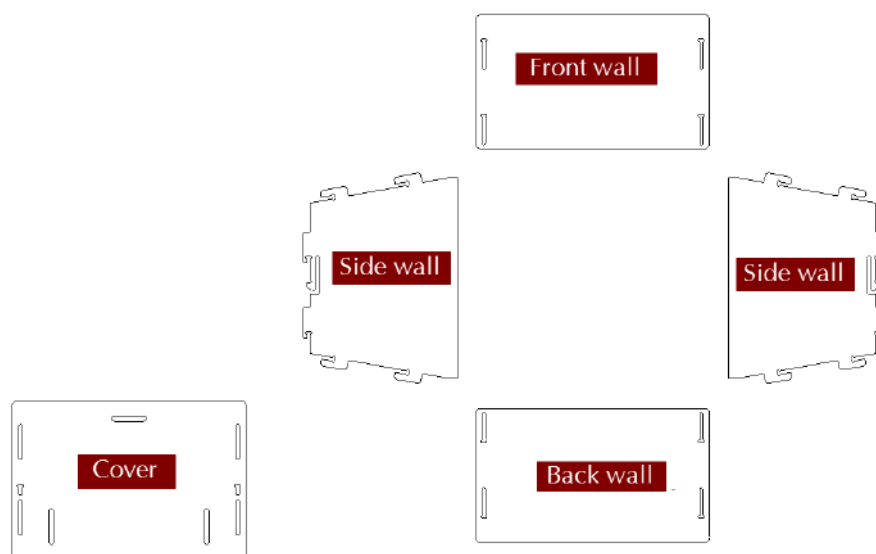
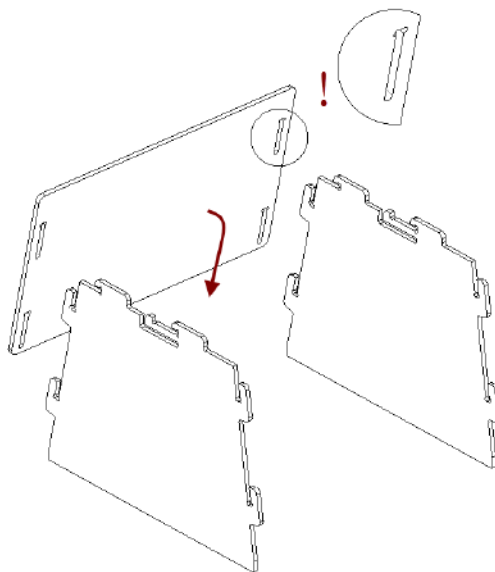
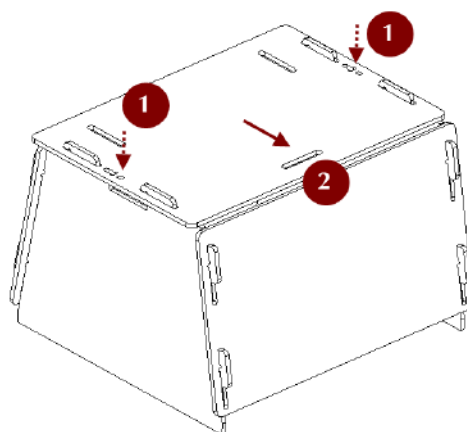

Figure 168: Parts of the scanner stand.
Figure 169: Assembling the front wall.
Figure 172: Latching the cover.
The scanner stand comes unassembled with Artec Spider and consists of five parts (see Figure 168): two side walls, one front and one back wall (these parts are identical, however), and a cover. Before beginning assembly, lay them all out as Figure 168 shows. Then follow these steps:
1. Raise the two side walls to the upright position, as Figure 169 shows. Noting carefully the orientation of the T-shaped slot, install the front wall to the side walls using the two pairs of hooks. Press the front wall and slide it down against the stop. Make sure the three walls are properly aligned with each other.
4. Press your thumbs against the T-shaped holes on the cover and shift it toward the back wall until you hear a click (see Figure 172).
Note: To disassemble the stand, release the detents in the cover's T-shaped slots (see Figure 168) using a thin object like a ballpoint pen. Repeat the assembly steps in reverse order (from Figure 172 to Figure 169), moving the parts in the opposite directions.